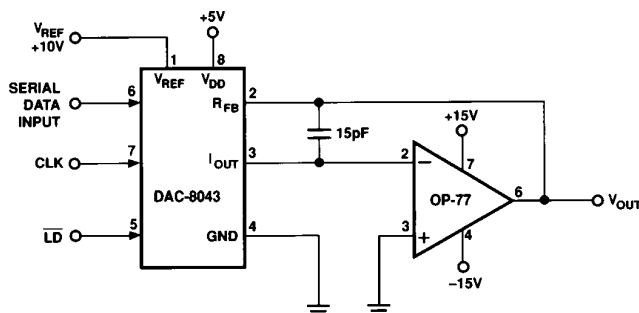

Figure 5. Unipolar Operation with High Accuracy Op Amp (2-Quadrant)
1. Phase compensation (see Figures 5 and 6).
In most applications, linearity depends upon the potential of I_{OUT} and GND (pins 3 and 4) being exactly equal to each other. In most applications, the DAC is connected to an external op amp with its noninverting input tied to ground (see Figures 5 and 6). The amplifier selected should have a low input bias current and low drift over temperature. The amplifier's input offset voltage should be nulled to less than +200 μ V (less than 10% of 1 LSB).
The circuit shown in Figures 5 and 6 may be used with an ac or dc reference voltage. The circuit's output will range between 0 V and approximately $-V_{REF}$ (4095/4096) depending upon the digital input code. The relationship between the digital input and
¹Nominal full scale for the circuits of Figures 5 and 6 is given by
²Nominal LSB magnitude for the circuits of Figures 5 and 6 is given by
The transfer function for the DAC8043 connected in the multiplying mode as shown in Figures 5, 6 and 7 is: